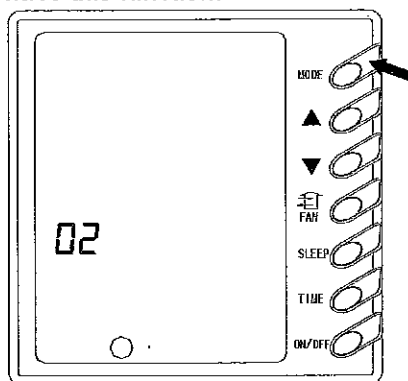

Fig 11
10) Power-fail Memory Function Setting (Figure 11)